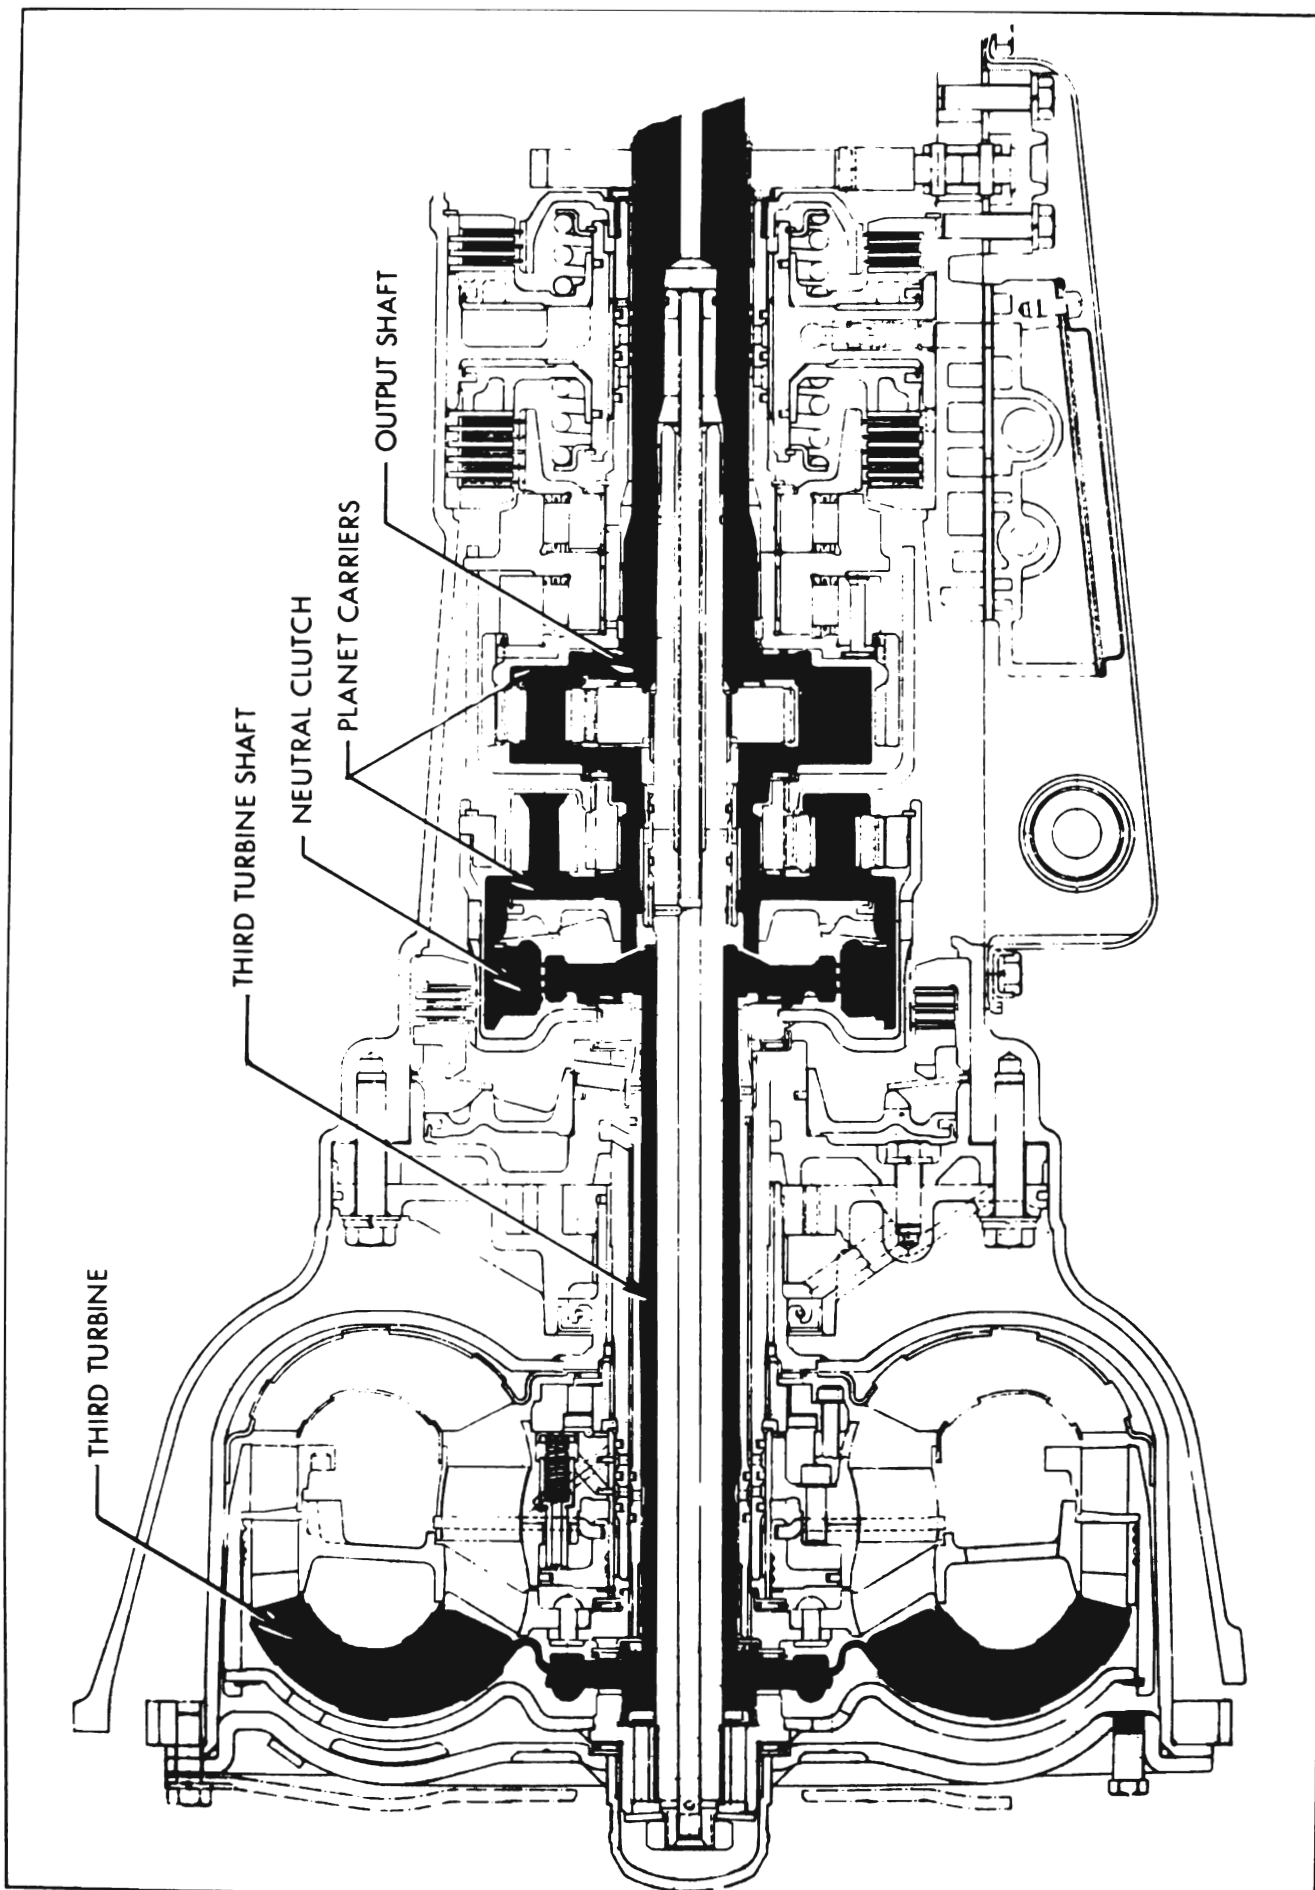

Figure 5—Third Turbine, Third Turbine Shaft, Neutral Clutch Planet Carriers, and Output Shaft
3. A *third turbine*, multiple disc neutral clutch and third turbine shaft splined to both front and rear planet carriers, and the transmission output shaft splined to the rear planet carrier. See Figure 5.